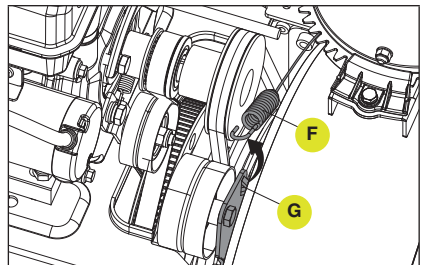

Figure 58
6. Unhook the spring (F) from the auger plate (G). (Fig. 58)